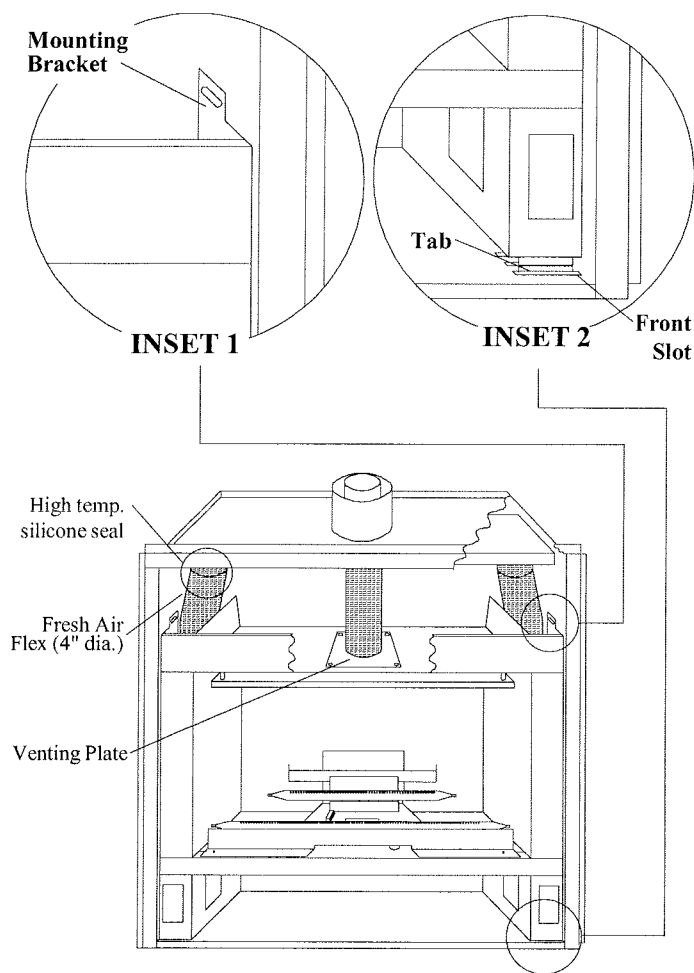

Figure 23. E38-DVM insert.
2. Remove the fresh air flex from the collars on the shell. *See Figure 23. Important: Be careful not to damage the fresh air flex during removal or storage.*